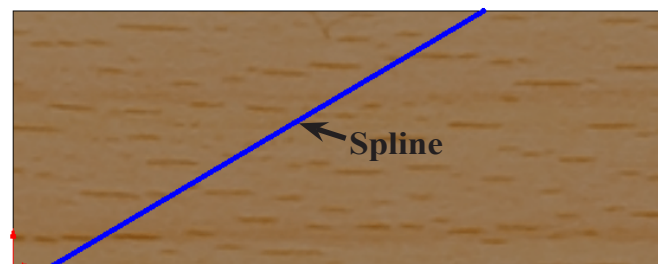
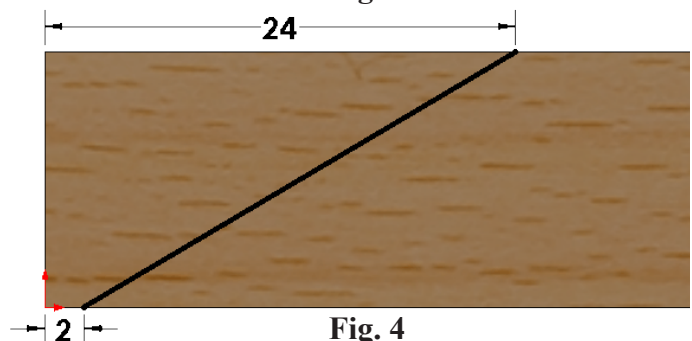

Fig. 3
Fig. 4
Step 1. Click **Spline**  (S) on the Sketch toolbar.
Step 2. Draw a **2 Point Spline** on the edges of the Fuselage Blank, Fig. 3. Press Escape to end spline.
Step 3. Click **Smart Dimension**  (S) on the Sketch toolbar.
Step 4. Add the Dimensions as shown in Fig. 4.